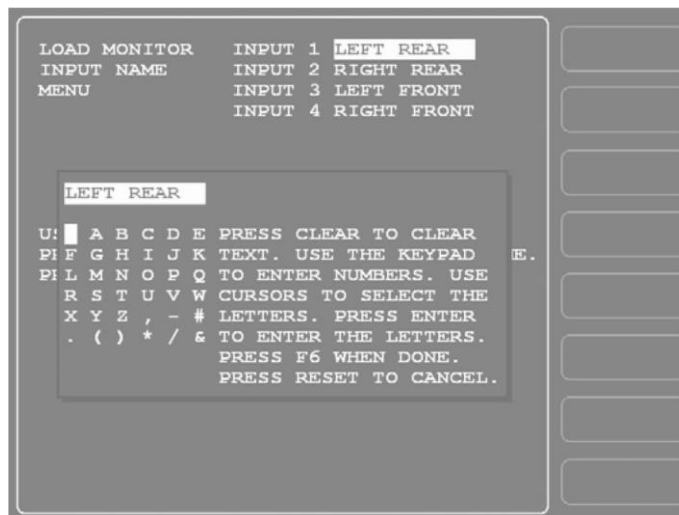

Figure 3-7. Load Monitor Input Name Menu with Alphabetic Entry Window Displayed
- To change an input name, select that entry. An Alphabetic Entry window displays, as shown in Figure 3-7.